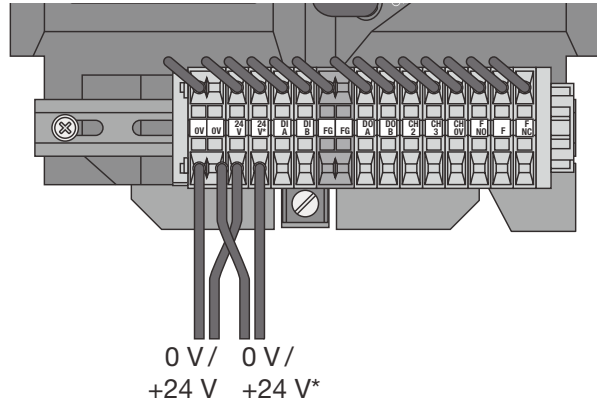

Fig. 30: Terminal block - connection of the supply voltage for OZD Profi G12DU ATEX 1 (OZD Profi ...DK ... and OZD Profi ... DE ... : after opening the housing)
- ▶ Connect the cables for the operating voltage supply to the terminal block, see fig 30.